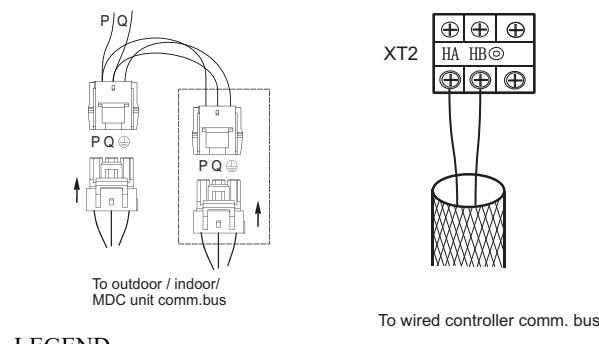

Fig. 16 —Communication Wire Connection
- See Fig. 16 for an example of communication wire connection.
See Fig. 16.